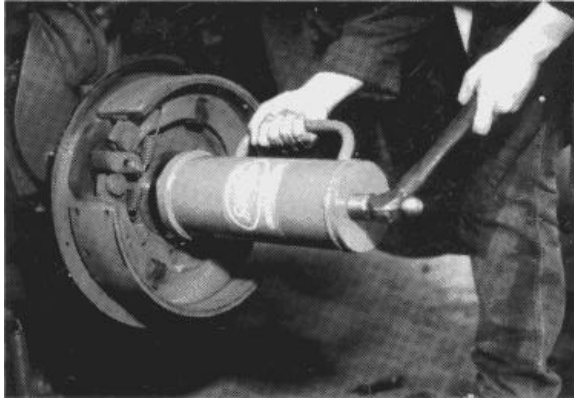

Figure 26 Wipe Clean Excess Sealant
2. Place recommended installation tool over the end of spindle. Use a 3 to 5 pound hammer to strike the end of the tool until the tool bottoms against the spindle shoulder. After bottoming, rotate the tool while applying several light blows with the hammer to insure that the seal I.D. is flush and square with the face of the shoulder. Wipe clean any excess sealant (Figure 26).